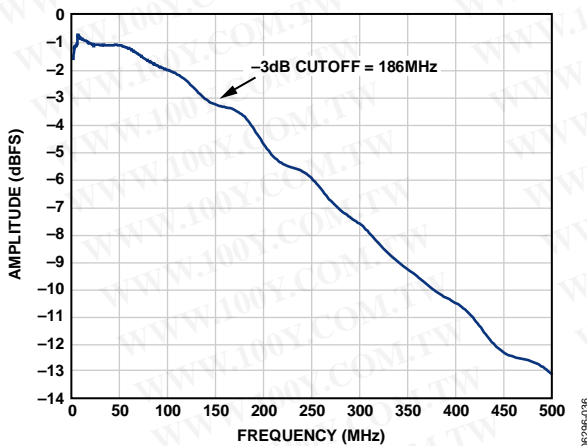

Figure 59. Evaluation Board Full-Power Bandwidth
- **AIN:** The evaluation board is set up for a transformer-coupled analog input with an optimum 50  $\Omega$  impedance match of 150 MHz of bandwidth (see Figure 59). For more bandwidth response, the differential capacitor across the analog inputs can be changed or removed. The common mode of the analog inputs is developed from the center tap of the transformer or AVDD\_DUT/2.